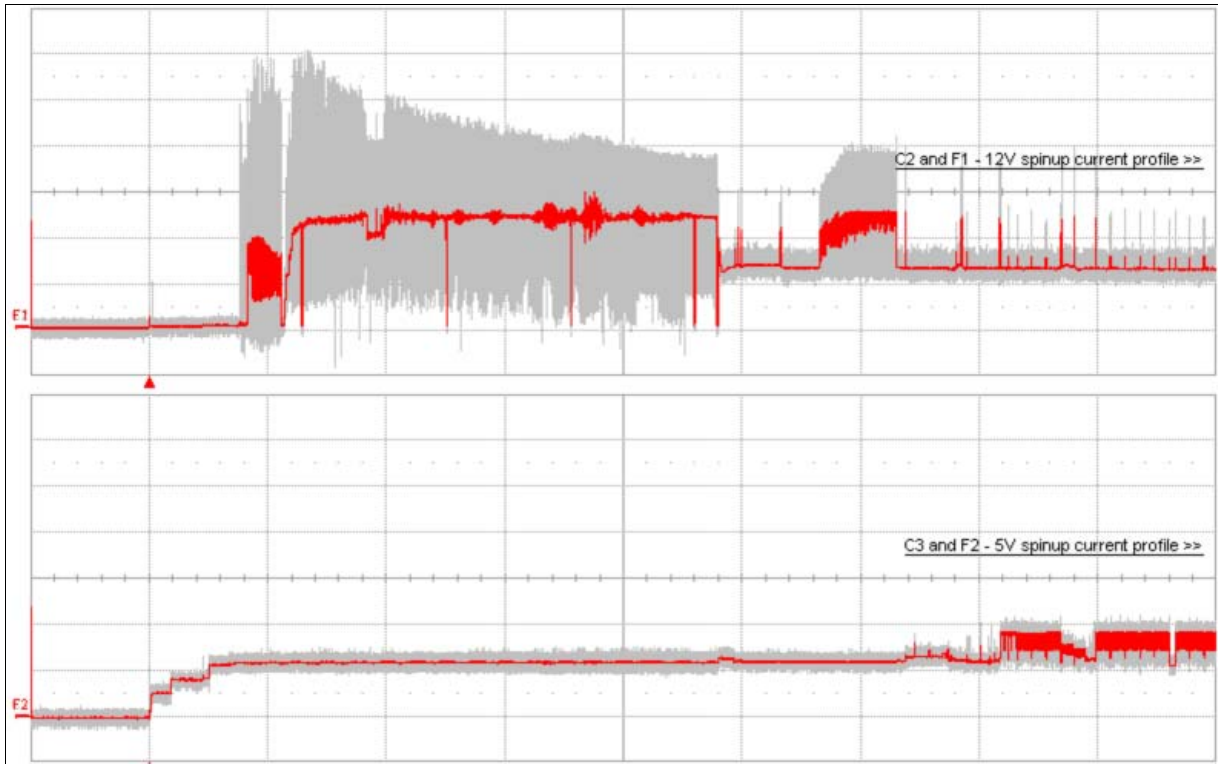

Figure 1. Typical 450GB current profiles
- [3] See +12V current profile in Figure 1.